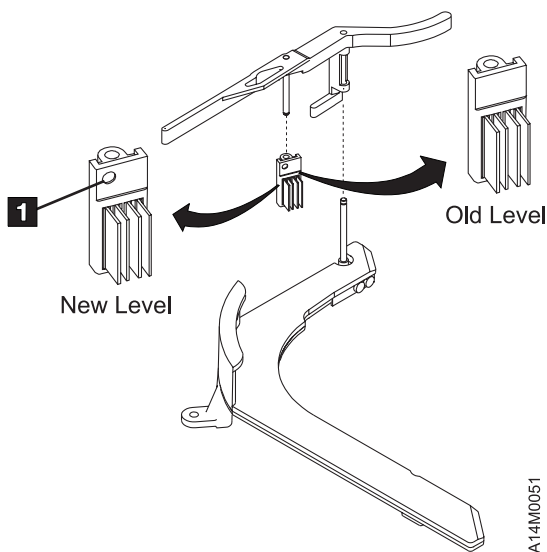

Figure 10-81. Head Cleaning Brush (Detail)
1. Refer to Figure 10-81 for the location of the identifying mark **1** on the new level of brush. Also notice the correct orientation for installing the brush.